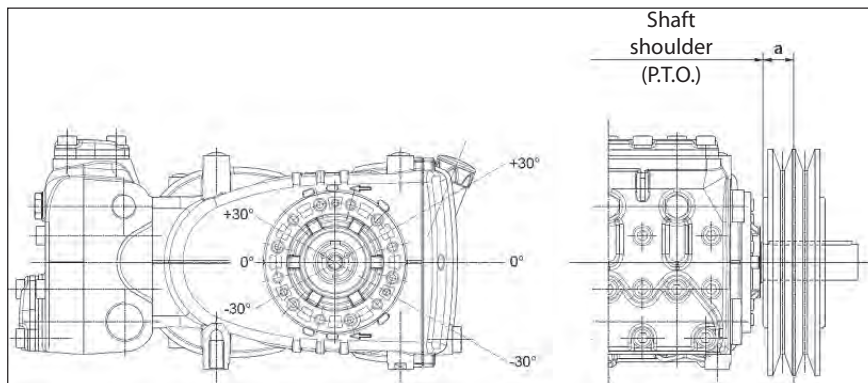

Fig. 10
- b) Use high performance belts – for example **XPB** instead of **SPB** – as a lower quantity of belts for the same transmitted power may be necessary and a consequent shorter resulting distance compared to the shaft shoulder (P.T.O.) “a” of Fig. 10.